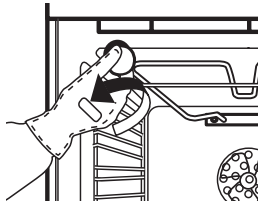

Fig. 5
- 2. Unscrew the lamp cover (Fig. 5), replace the lamp (see note for lamp type) and